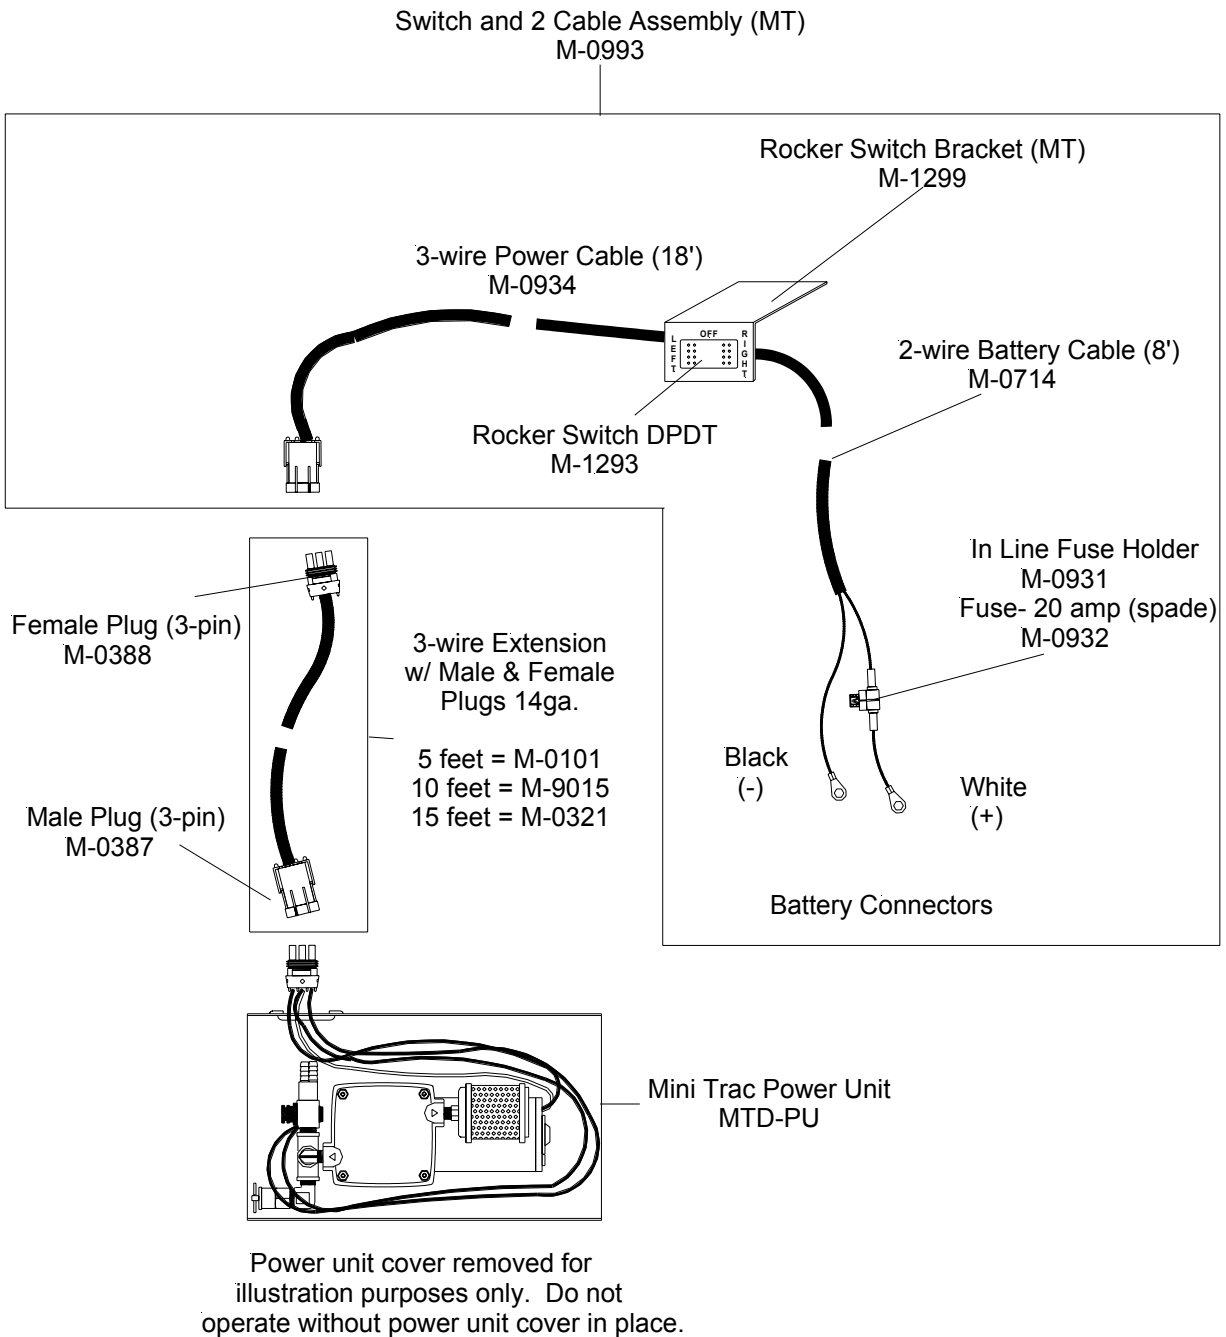

FIGURE 6 - MINI-TRAC Wiring
**Note:** Before attaching airlines to hose barb fittings inside power unit, place male 3-pin electrical plug through grommet. This will allow for easier electrical connection/disconnection when attaching/removing sprayer. See Figure 6 page 11.